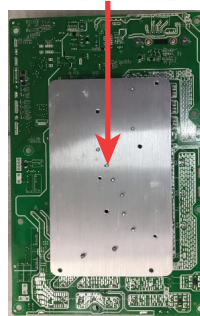

Figure 9
- Apply the thermal paste on the heat sink of the new control board (refer to Figure 9).